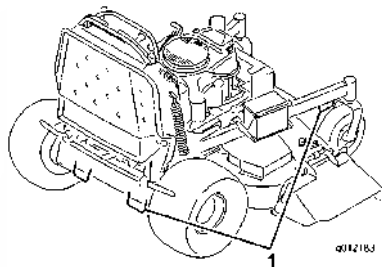

Figure 30
7. Tie down the machine near the front caster wheels and the rear bumper with straps, chains, cable, or ropes (Figure 30). Refer to local regulations for tie-down requirements.